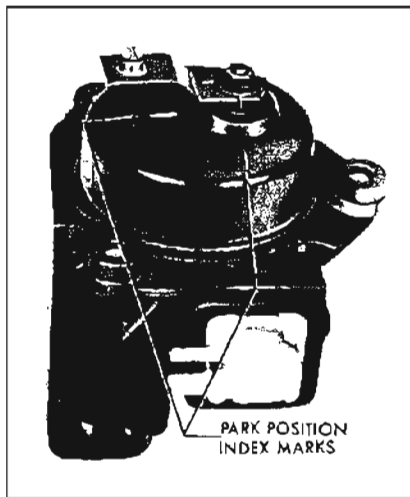
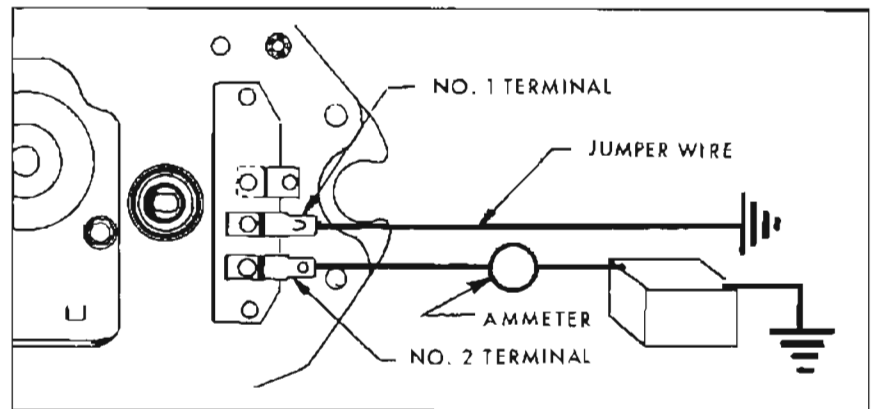

Figure 10-75—Park Position of Crank Arm
Figure 10-77—Connections to Operate Wiper out of Car
When the car owner shuts the wiper "off" at the dash switch, the motor circuit to ground is opened at the dash. However, the parking switch contacts, which are normally closed, maintain the motor circuit to ground at the wiper. This allows the wiper to keep operating until the blades or wiper crank arm reach the park position (Blades approx. 2" above windshield molding). (Figure 10-75 shows the crank arm in park position.) At the same time the blades reach the park position, a cam on the output gear opens the park switch contacts. This opens the motor circuit to ground, stopping the motor. Thus, the park switch actually controls wiper operation only during that short period of time, after the owner turns the wiper "off" at the dash switch but before the wiper has completely stopped.
Figure 10-77 shows the proper method of connecting jumper leads to the wiper so that it can be operated independently of the dash switch or car wiring for test purposes. (NOTE: Specification table at end of this section lists current draw data.)
operate, disconnect wiring harness from wiper and check for 12 volts at harness terminal that connects to wiper terminal No. 2, Figure 10-77. No voltage indicates defective car wiring. **CAUTION: DO NOT connect hot line to No. 1 terminal.**
(c) Connect 12 volt supply to No. 2 wiper terminal and connect a jumper wire from terminal No. 1 to ground (Figure 10-77). If wiper operates, the dash switch or wiring between dash switch and wiper is defective.
(b) If wiper still operates, disconnect wiring from wiper and connect 12 volt supply direct to wiper terminal No. 2 (Figure 10-77). **DO NOT** connect any jumper wire to terminal No. 1.
Connect a 12 volt supply and an ammeter to wiper as shown in Figure 10-77 and observe current draw and wiper operation.
is removed from wiper terminal No. 1 (Figure 10-77).
(b) Check for grounded condition in the internal motor lead that connects to terminal No. 1, Figure 10-77.
Wiper crank arm stops rotating immediately when jumper wire is disconnected from wiper terminal No. 1 (Figure 10-77). NOTE: Crank arm should continue to rotate until park position is reached (Figure 10-75).
2. Reassembly of Crank Arm - Operate wiper to park position (Figure 10-77) and install crank arm on output shaft in the position shown in Figure 10-75. Clamp crank in vise before securing the retaining nut.